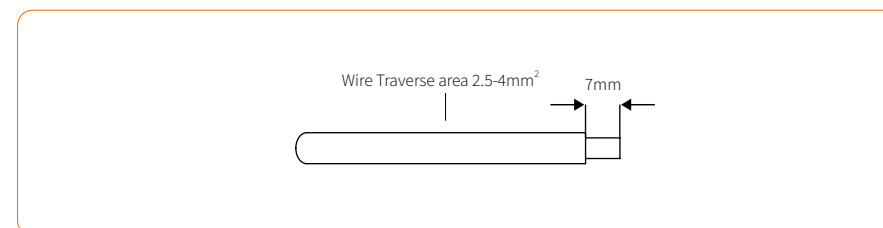

Figure 4-10
② Peel off the DC cable insulation sleeve for 7 mm, as shown in Figure 4-10: